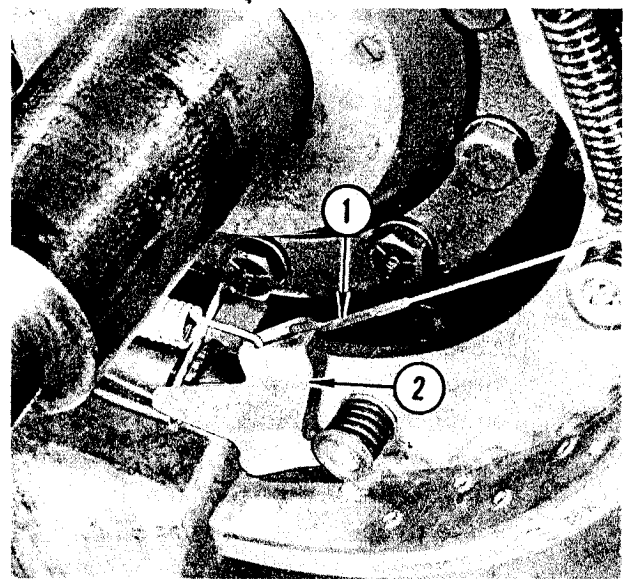

FIGURE 4. INSTALLING CABLE
- When installing the hook end of the automatic adjusting cable (1) to the automatic adjusting lever (2), the hook must be inserted from the top of lever, Figure 4. CAUTION: Do not twist cable.